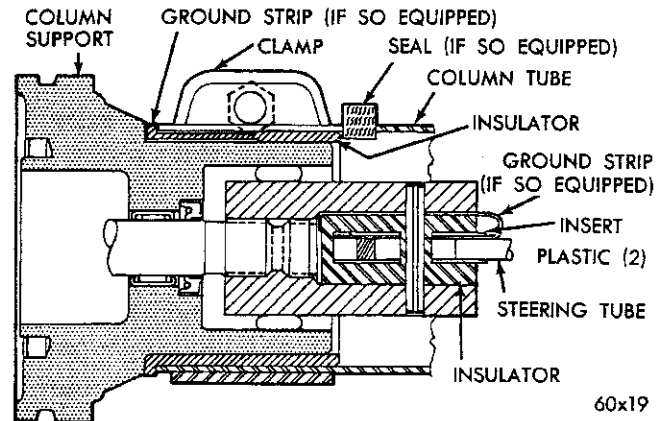

Fig. 51—Jacket Tube Installation
(1) Install the steering tube rubber insulator, plastic insert, upper steering tube and coupling pin and the horn ground strap.
(2) Enter the steering gear assembly into the engine compartment and through the opening in the floor panel. Install the housing attaching bolts, flat washers, swivel washers and nuts, but do not tighten. The swivel washer permits alignment of the housing to the dash.
(3) Inspect the jacket bearing snap ring in the steering tube lower groove. Install a new ring if the old ring will not fully seat in the groove. Install the spacer washer, spring and tapered spacer on top of the snap ring.
(4) Assemble the horn ground strap (copper) to the jacket tube support rubber insulator boot and install this assembly into the lower end of the jacket tube (Fig. 51).
(5) Lubricate (powder lubricant) the end of the steering gear column support and insulator boot to facilitate installation and slide the jacket tube and insulator boot assembly down against the shoulder on the jacket tube support. Tighten the clamp bolts securely.